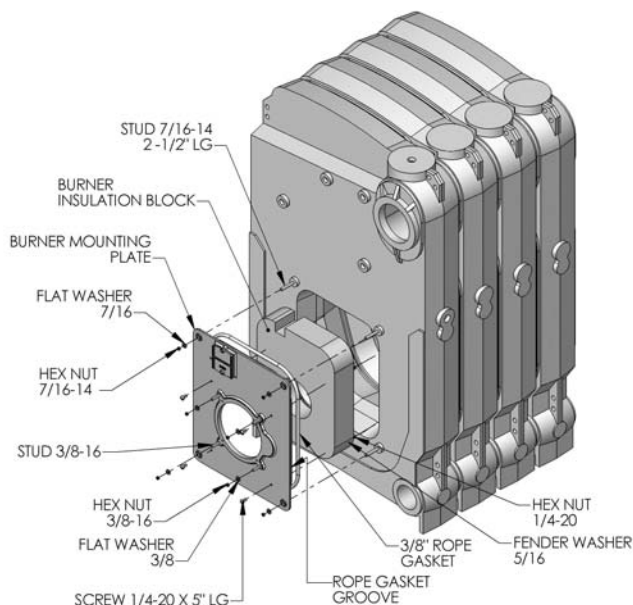

Figure 2.9: Burner Mounting Plate Installation
3. Install the 7/16" x 2-1/2" Studs provided into the four threaded holes around the perimeter of the burner opening in the Boiler Front Section as shown in Figure 2.9.